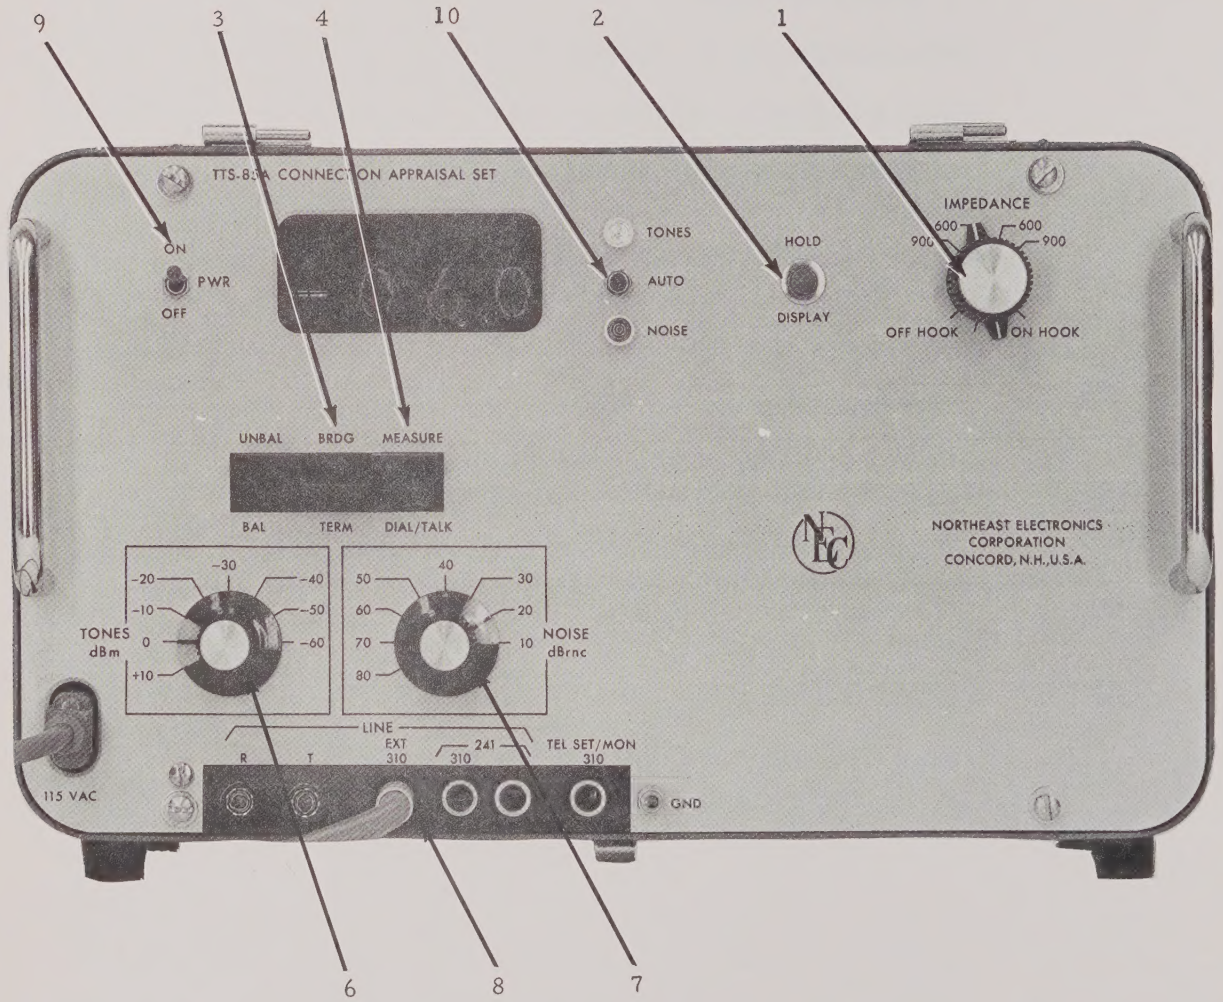

Fig. 3-1 Front Panel Controls
3.1 FRONT PANEL CONTROLS. (See Fig. 3-1)